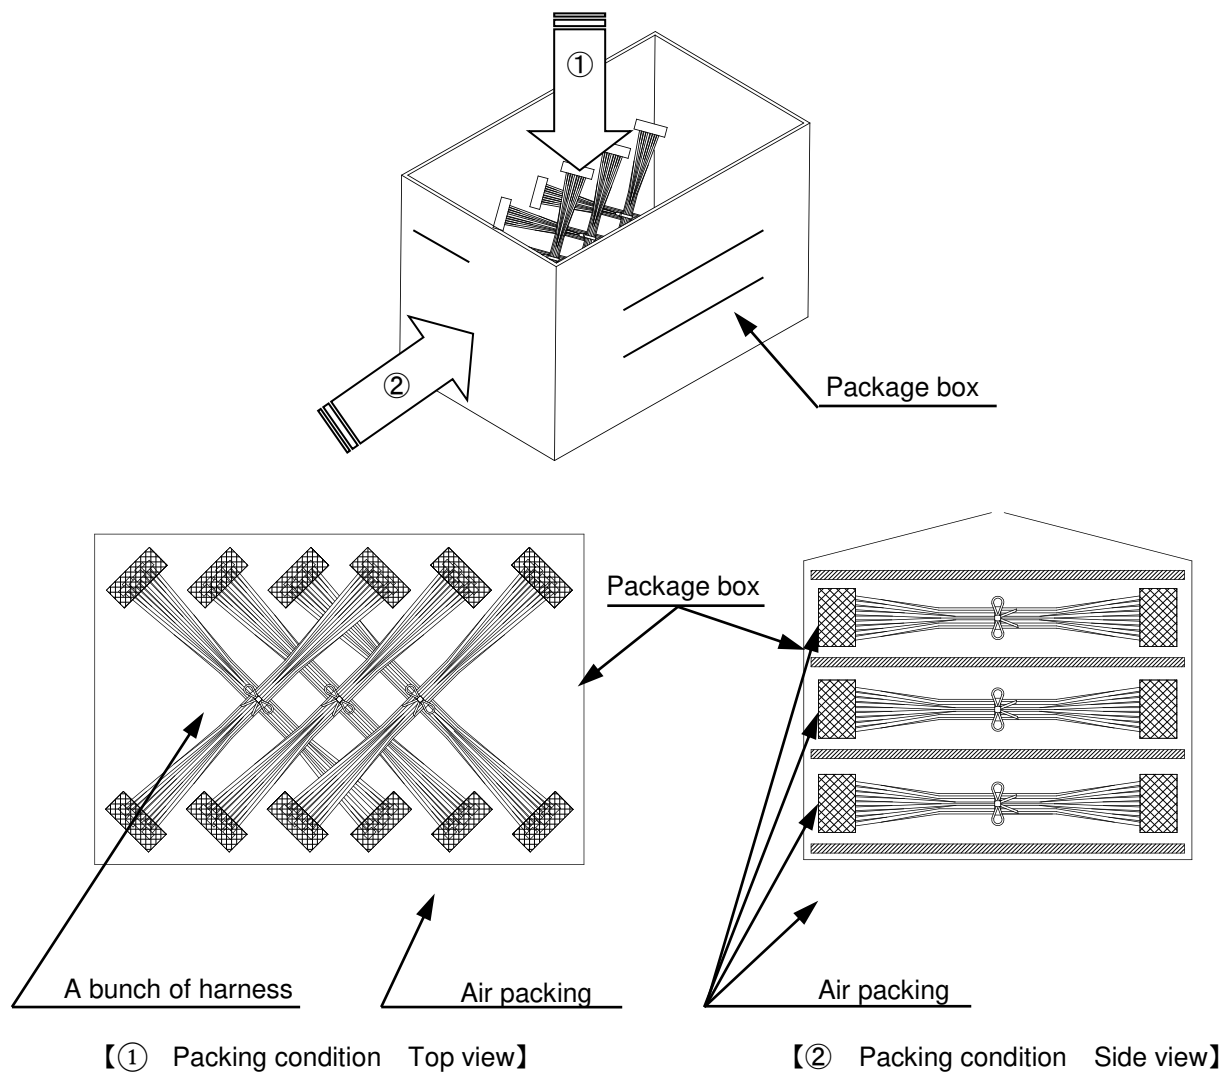

Fig.8-2 Packing condition
Figure below (**Fig 8-2**) Please take a measure not to add force to connector for a long period of time by stacking if you pack by different packing method for long harness.
- ※When packing bundle of harness after processing in a package box, please follow instructed packaging and avoid applying excessive load or force to harnesses. (cross shape) (**Fig.8-2 ①**)
- ※Please lay air packing etc. on the bottom of package box. In order to prevent force from applying to connectors for a long time by piling up package boxes, please lay air packing etc. (**Fig.8-2 ②**)